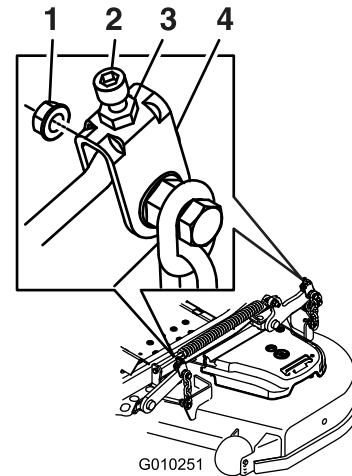

Figure 96
11. For mower decks shown in Figure 96, fine-tune the adjustment nut on the front deck-lift assembly by turning it (Figure 96).
- Fine-tune the screw adjuster by turning it to get 8.3 mm (3-1/4 inches) height (Figure 96).